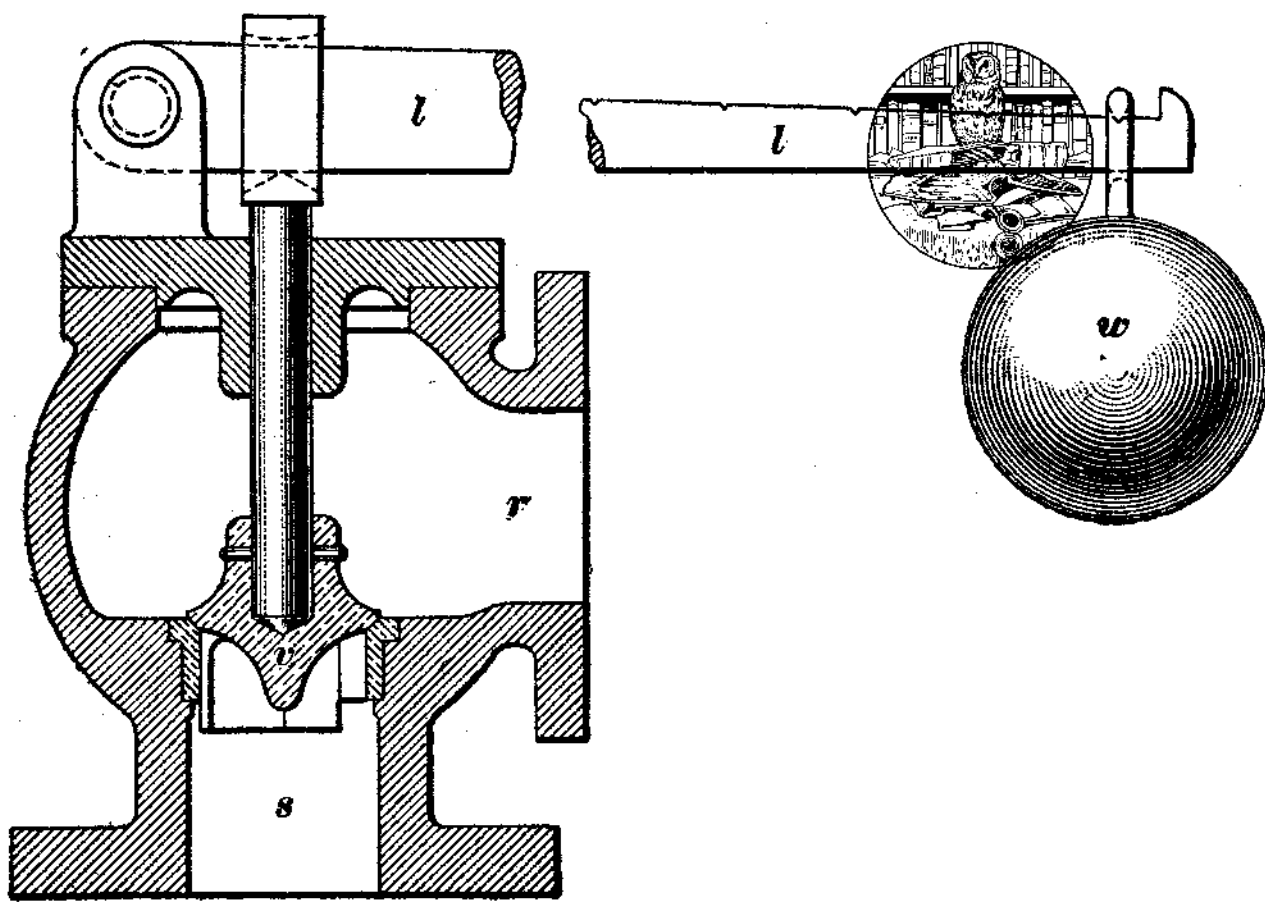

FIG. 2
7. A lever safety valve is shown in Fig. 2. The steam from the boiler enters at *s* and escapes at *r* when the steam pressure is sufficient to raise the valve *v* off its seat. The valve is held to its seat by the weight *w* hung from the lever *l*. The load on the valve is changed by shifting the weight along the lever. Notches are cut into the lever, and figures stamped below the notches indicate the pressure, in pounds per square inch, at which steam will blow off when the weight is hung in the notch above the figures.